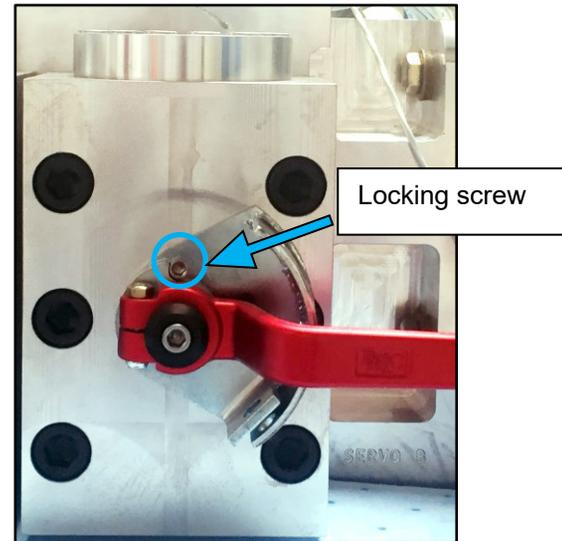

Figure 3-6. Isolation Valve Bracket Retaining Screw Location
2. Loosen and remove the screw locking handle lock bracket using **3/16 in** hex key wrench (Figure 3-6).